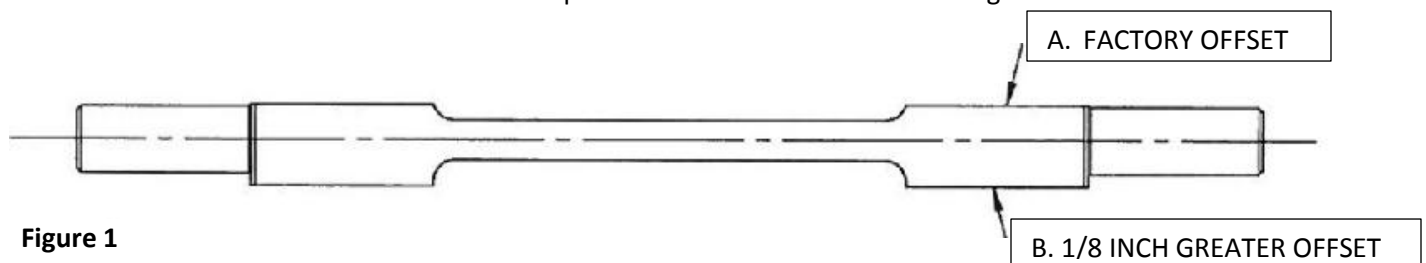

Figure 1
2. QA1 upper control arms have eccentric cross-shafts. Be sure the upper control arms both have the cross shafts facing the same direction. See **Figure 1**.